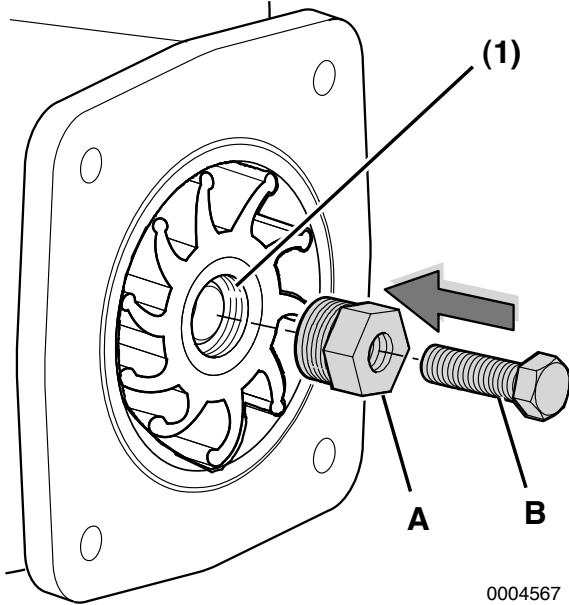
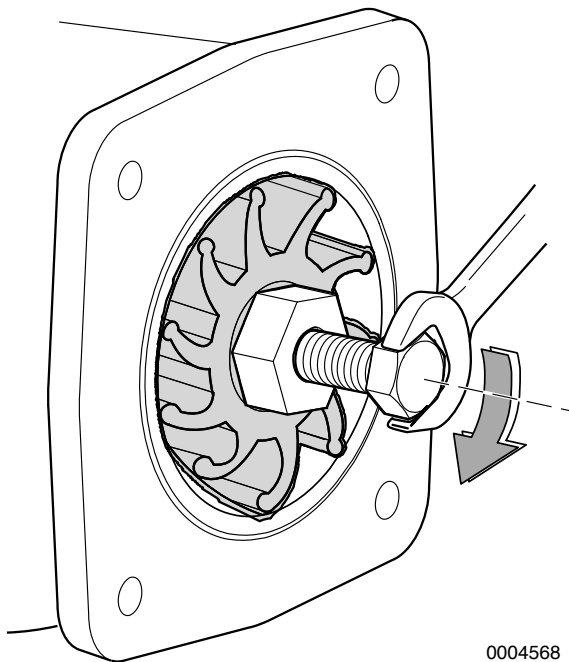

Figure 17
Figure 18
*Note: When replacing a used impeller with a new one, the impeller must have an M18 x 1.5 thread (**Figure 17, (1)**). Turn the M18 screw-side of the impeller to the cover side and install (**Figure 18**).*